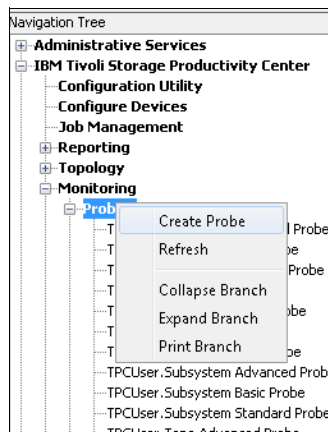

Figure 11-91 Create Probe option
1. Navigate to **IBM Tivoli Storage Productivity Center** → **Monitoring** → **Probe**, right-click, and select **Create Probe**, as shown in Figure 11-91.